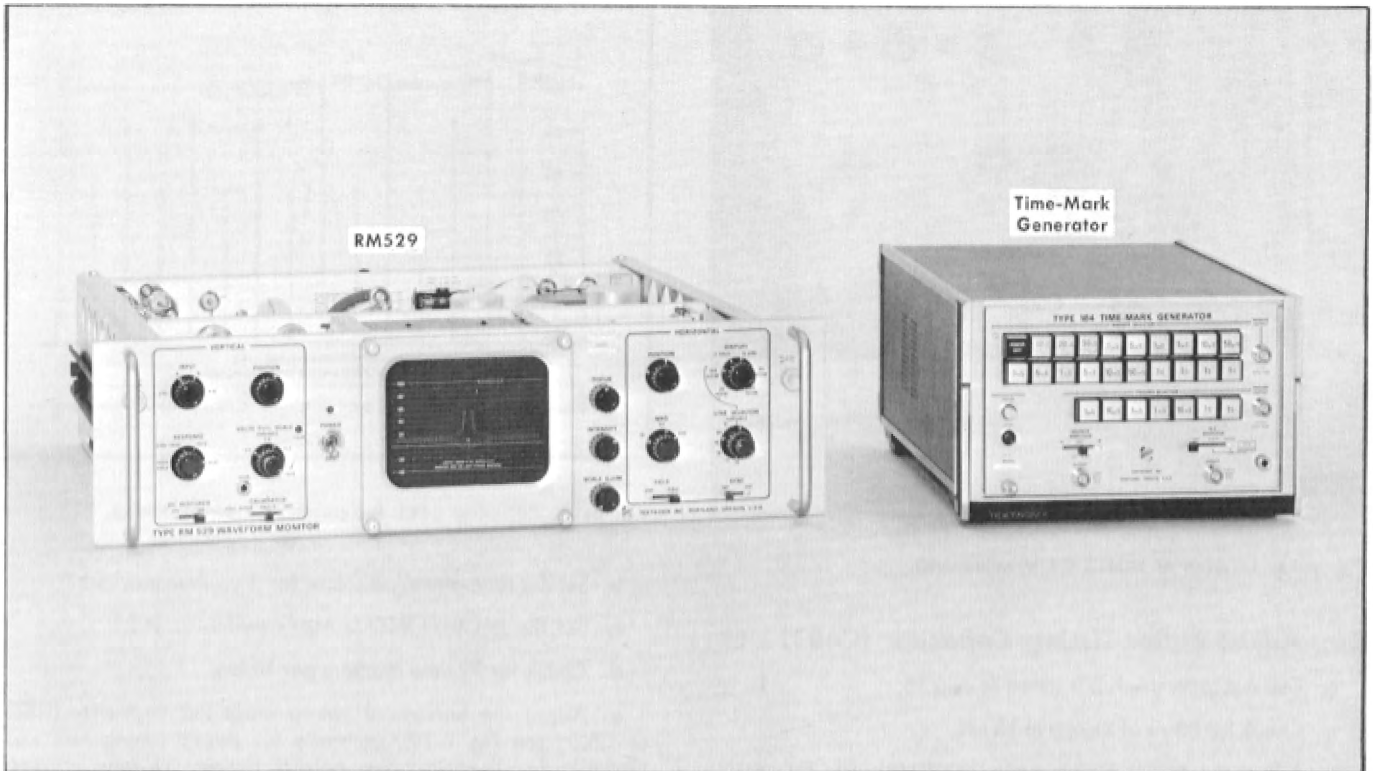

Fig. 6-15. Test equipment required for steps 15 through 18.
- a. Test equipment setup is shown in Fig. 6-15.